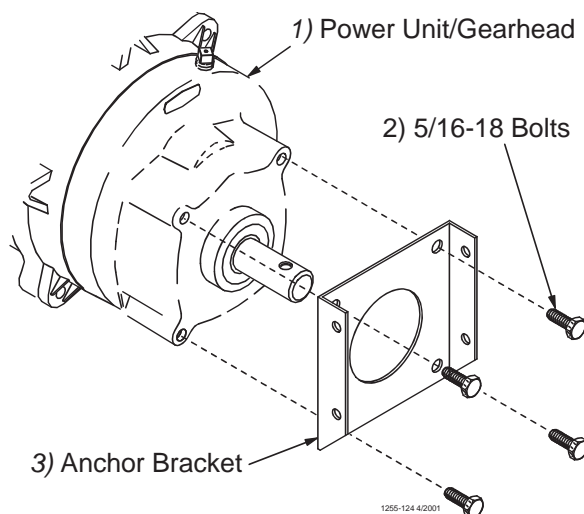

Figure 28. Assemble the Anchor Bracket to the Power Unit/Gearhead
3. Install the Anchor Bracket to the Power Unit/Gearhead, as shown in **Figure 28.**, with the included 5/16-18 Bolts.